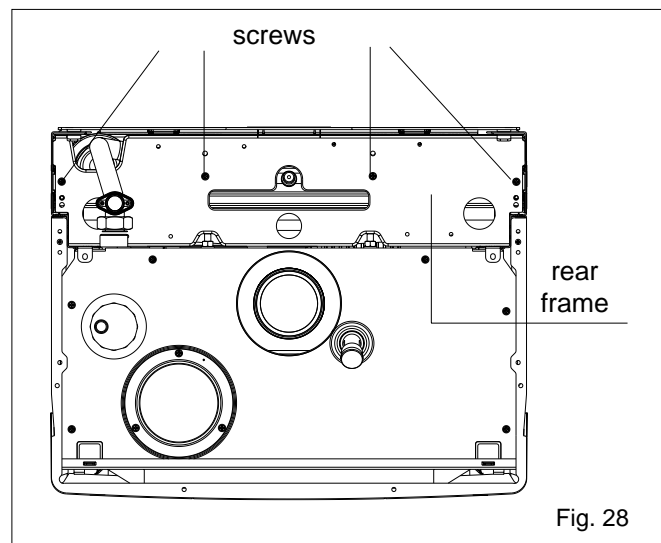

Fig. 28
6.20.1 EXPANSION VESSEL (removal, fig. 28)